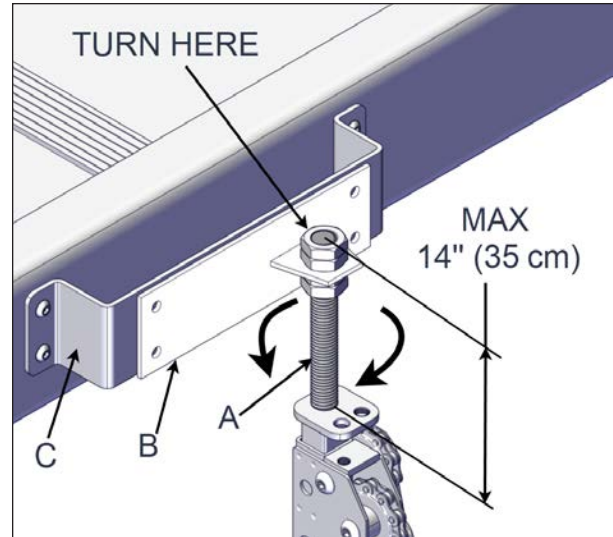

FIGURE 83: THREADED ROD ADJUSTMENT
14. The jack adapter located at the top of the jack can be adjusted by turning the threaded rod on the top of the jack. Adjust the height so that they match the cover mount bracket holes. Use the adjustable wrench 15/16" (24 mm) head. Repeat this step for all four jacks (Figure 83).
The threaded rod must not be unscrewed more than 14 inches (35 cm). (Measure the length from the top of the threaded rod nut to the top of the bottom nut see Figure 83.)